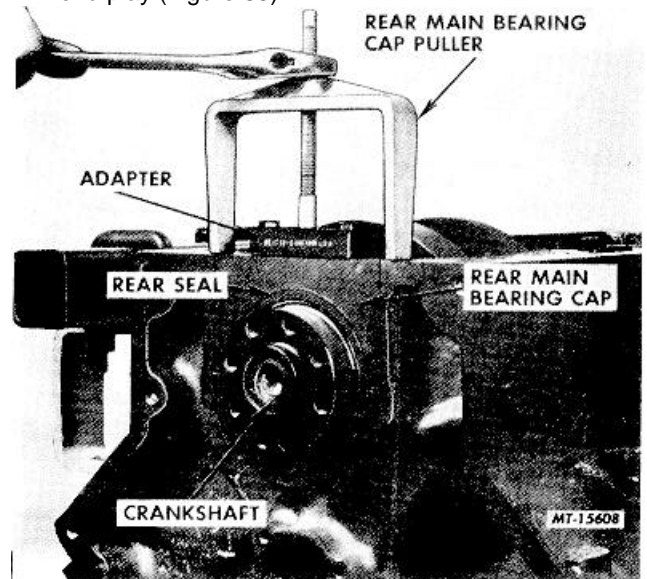

Fig. 84 Pulling Rear Main Bearing Cap (No.5)
73. Use puller SE-1719 and adapter SE-1719-3 to remove rear (No. 5) main bearing cap (Figure 84).